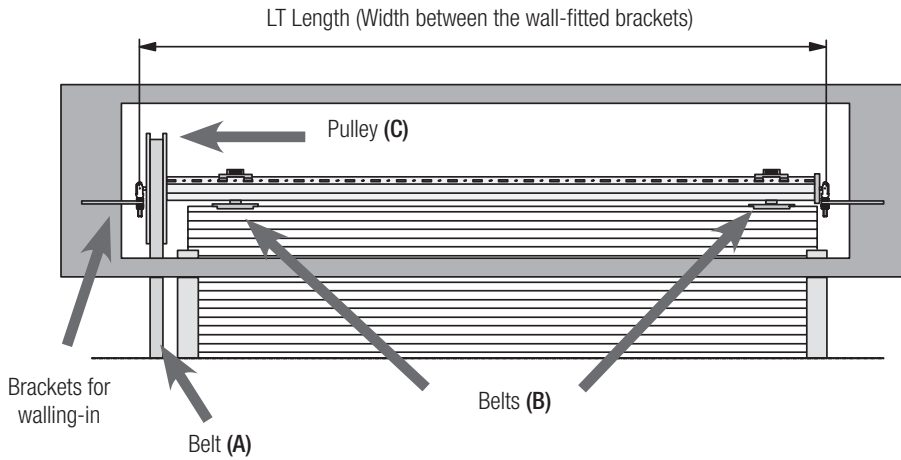

Fig. 3
2. Separate the belt (fig. 3 ref. A) from the pulley (fig. 3 ref. C) and release the belts (fig. 3 ref. B) from the existing roller.
- 1) THE JACK TELESCOPIC ROLLER KIT MUST BE ASSEMBLED ACCORDING TO THE "LT" LENGTH (Fig. 3 or 5)